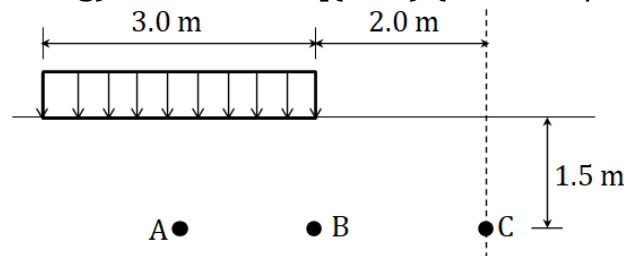

Figure 5
- (b) A 3 m wide strip footing (Fig. 5) is located on the ground surface with a pressure of 100 kN/m^2 . Determine the vertical stresses at a depth of 1.5 m at A (below centreline of the footing), B (edge of the footing) and C (at a distance of 2 m from the edge of the footing). [(CO6) (Evaluate/HOCQ)]